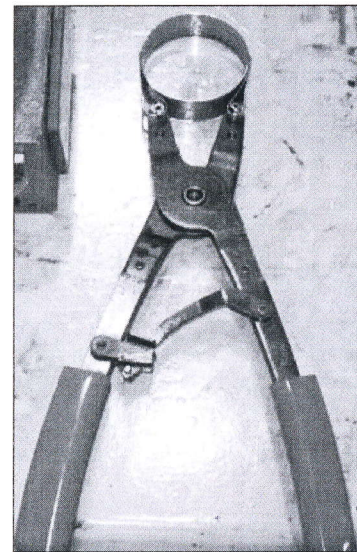

Figure 5
- Figure 5 shows an example of a ring compression tool.